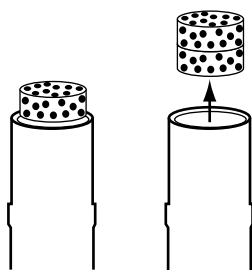

Figure 1
1. Remove the contaminated or clogged filter by pulling it straight out of the end of the tip cone (see Figure 1).